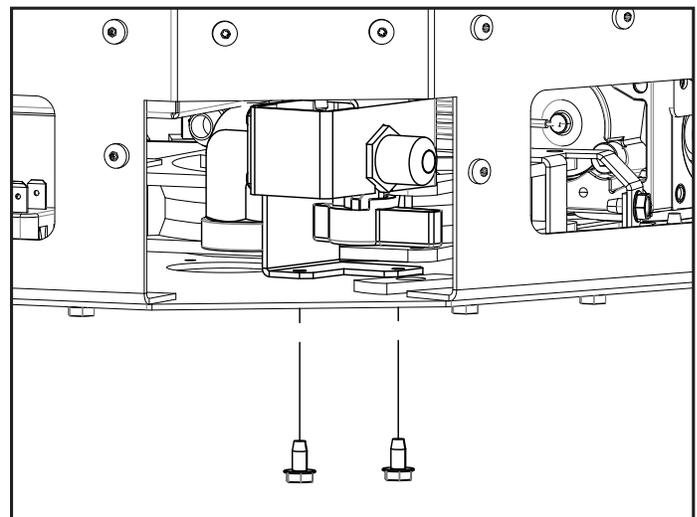

Figure 84: Gas Connection Re-installation
5. Work the flex line and get the gas connection assembly into position as shown in Figure 84. Attach the assembly to the firebox using two (2) 5/16" hex head bolts from below.